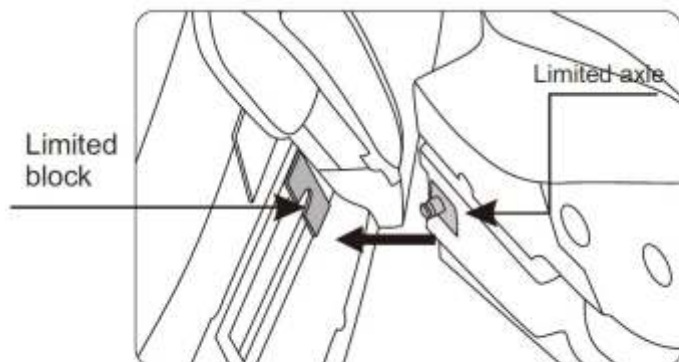
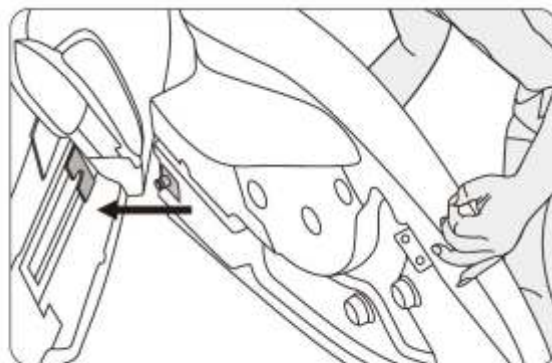
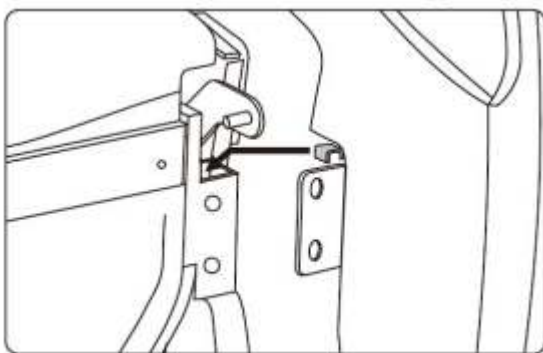

Figure 5
Figure 6
Figure 7
2) From the Figure 5, identify the nipple of the limited axle at the rear of the chair and the limited block on the arm rest. Place the block onto the nipple of the limited axle (Figure 6). If it does not click in immediately, then you can use a bit of gentle force, and hit the front of the arm rest with the flat of your hand. Let the nipple at the rear glide into the block and hang the front of the arm rest onto the mount as shown in Figure 7[8]. Make sure that the hoses and cables do not get crushed.